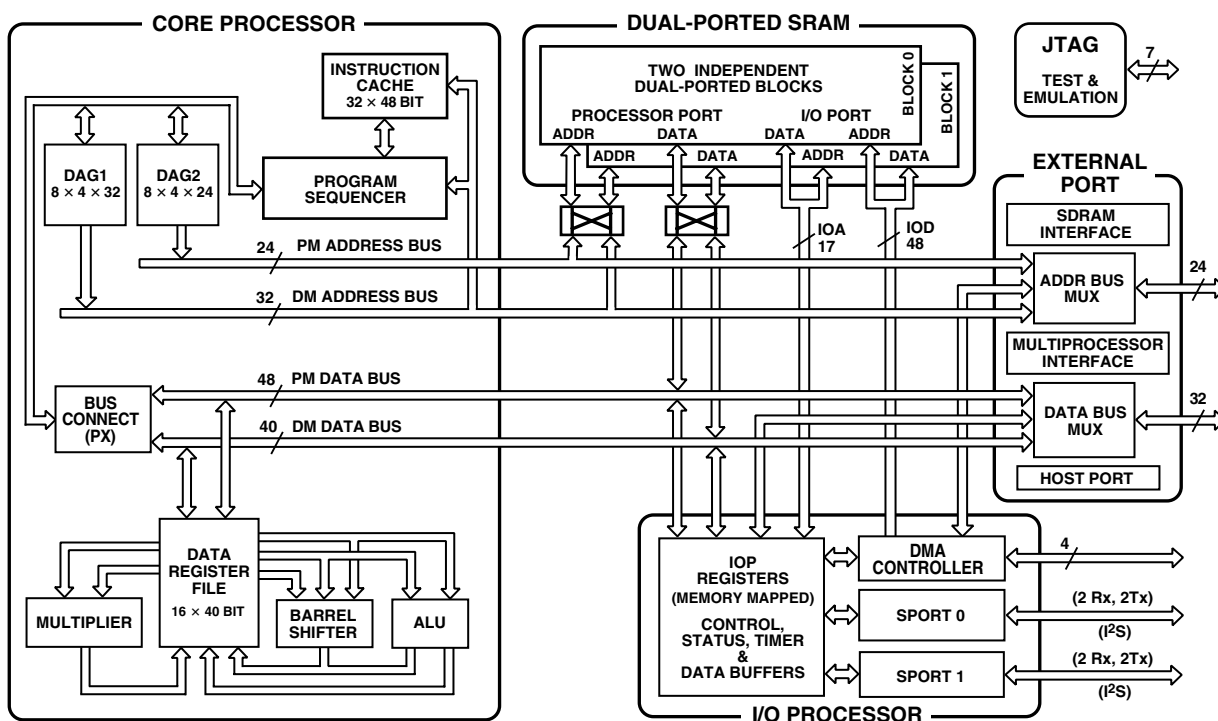

Figure 1. Functional Block Diagram
Figure 1 shows a block diagram of the ADSP-21065L, illustrating the following architectural features:
The ADSP-21065L features an enhanced Super Harvard Architecture in which the data memory (DM) bus transfers data and the program memory (PM) bus transfers both instructions and data (see Figure 1). With its separate program and data memory buses, and on-chip instruction cache, the processor can simultaneously fetch two operands and an instruction (from the cache), all in a single cycle.